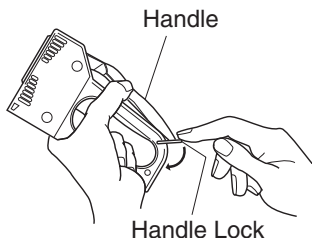

Figure 1
1. Hold tool base and handle. Squeeze handle to release tension on handle lock. Slip handle lock off of handle (see Figure 1).